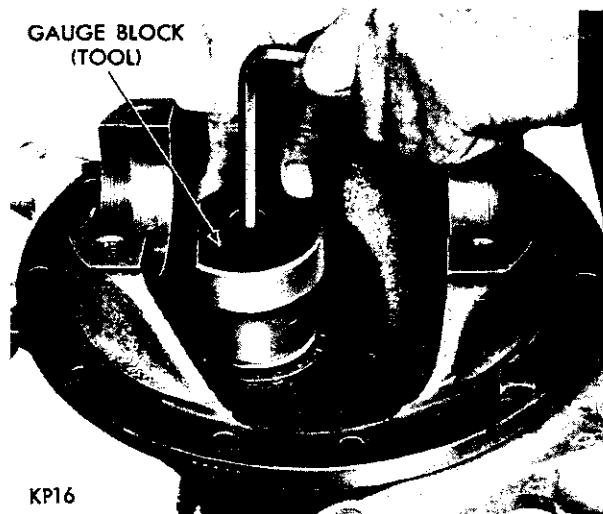
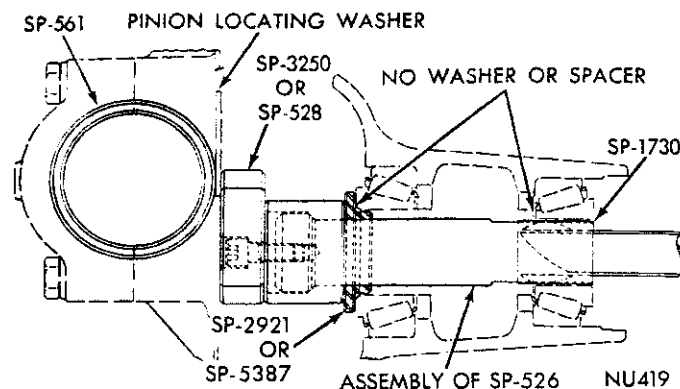

Fig. 28—Installing Gauge Block on Tool
Fig. 31—Tool C-758-D4 Installed in Housing
(1) Reverse carrier in stand and install gauge block SP-528 on end of tool and securing it to tool with Allen screw. The flat portion of gauge block should be facing differential bearing pedestals (Fig. 28). Tighten screw with Allen wrench.
(1) Assemble spacer SP-2921 to main section of tool followed by spacer SP-1730. Install rear pinion bearing cone over spacer SP-1730 and against spacer SP-2921 (Fig. 31).
(2) Insert assembly into carrier and install front pinion bearing cone over tool shaft and in its proper position in bearing cup. Install tool spacer, tool thrust washer and tool nut on shaft.
(3) With nose of carrier up, place flange holding Tool C-3281 on compression sleeve. Allow assembly to rotate while tightening nut to not more than 25-50 foot-pounds. **Always make sure bearing cones are lubricated with hypoid gear lubricant.**
(4) Turn tool several complete revolutions in both directions to permit bearing rollers to seat. After bearing rollers are properly seated, check bearing preload by rotating tool with an inch-pound torque wrench. The correct bearing preload should be from 20-30 inch-pounds for new bearings and 0-15 inch-pounds for the original bearings.
(5) With proper bearing preload set, invert carrier in stand and install gauge block SP-528 or SP-3250 to the main screw attaching it with Allen screw securely (Fig. 28). The flat portion of gauge block should be facing differential bearing pedestals.
(1) Assemble spacer SP-5387 to main section of tool followed by spacer SP-1730. Install rear pinion bearing cone over spacer SP-1730 and against spacer SP-5387 (Fig. 31).
(4) Turn tool several complete revolutions in both directions to permit bearing rollers to seat. After bearing rollers are properly seated, check bearing preload by rotating tool with an inch-pound torque wrench. The correct bearing preload should be from 20-30 inch-pounds for new bearings.